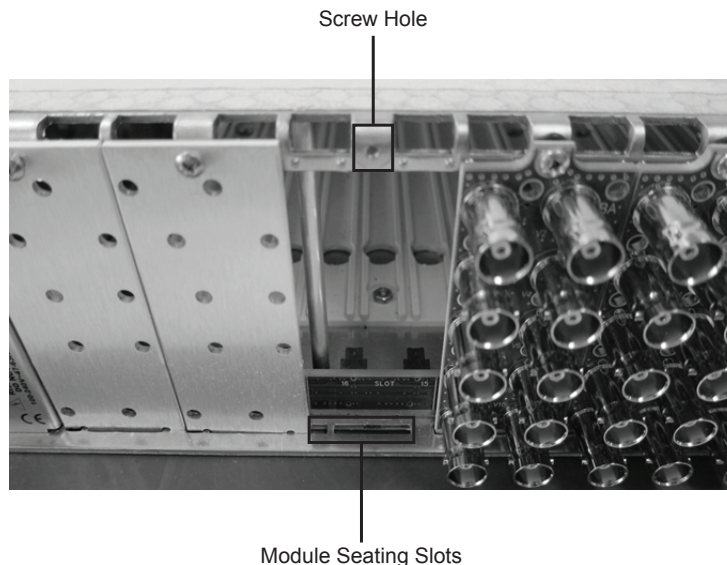

Figure 2.1 Rear Module Installation (MDL-R20 not shown)
4. Seat the bottom of the rear module in the seating slot at the base of the frame’s back plane. (**Figure 2.1**)